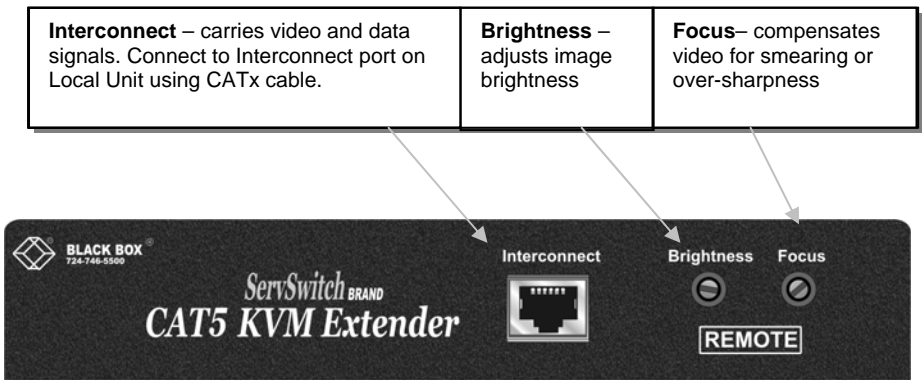

Figure 6 Remote Unit - front view
4. Connect the CATx cable to the INTERCONNECT socket on the front of the Remote Unit as shown in Figure 6.